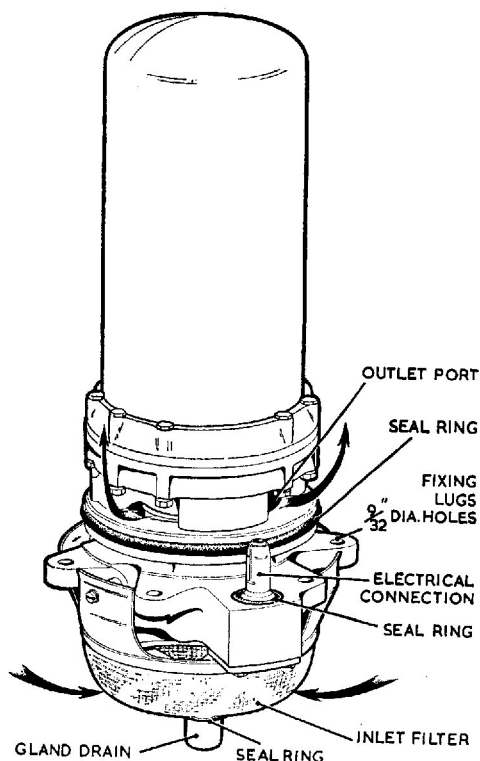

Fig. 1. External view of SPE. 1322 Mk. 3A pump
1. The SPE.1322 Mk. 3A pump, an external view of which is shown in fig. 1, is electrically driven and designed to deliver fuel under pressure to the main aircraft supply line, at varying conditions of fuel de-aeration, temperature, and vapour formation at high altitudes. The unit can also be used to transfer fuel from the auxiliary to the main tanks.